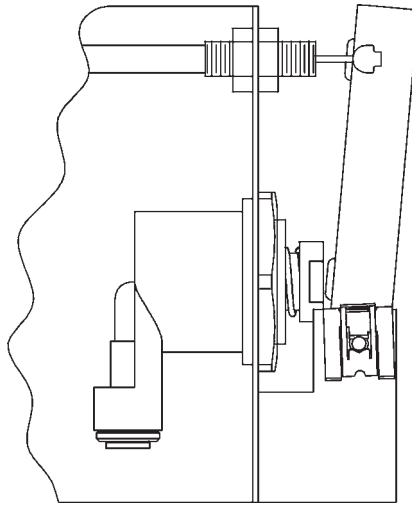

FIG. 7
4. Remove bottom access panel from fountain basin and save screws. Install the fountain to the back panel and wall using (4) 5/16" x 3/4" long bolts and washers (provided) thru holes in back panel. A washer is used on the bottom two (2) holes only. Tighten securely.
5. Assemble the operating cable to the fountain bracket. (Fountain should be mounted to exterior wall) Create a loop in the cable and thread the free end of the cable through the wall into the freeze resistant box. The adjustment nuts should be in the middle of threaded area on the operating cable. See Figure 7.
6. Connect free end of operating cable to the valve-operating bracket. The end of the cables must be recessed into the indents on the pivot brackets. Remove cable free play by adjusting the jam nuts on the ends of the operating cable. See Figure 7.